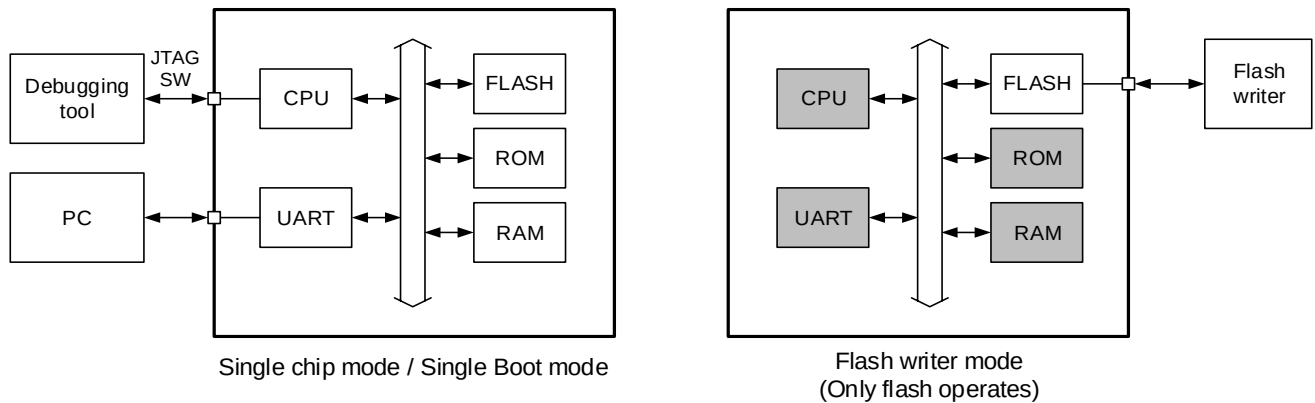

Figure 5.1 Measures for security risk
TM3H Group(2) contains two measures for security risk to prevent unauthorized access. Table 5.27, Table 5.28 and Figure 5.1 show the assumed access paths and protection targets for each operation mode.